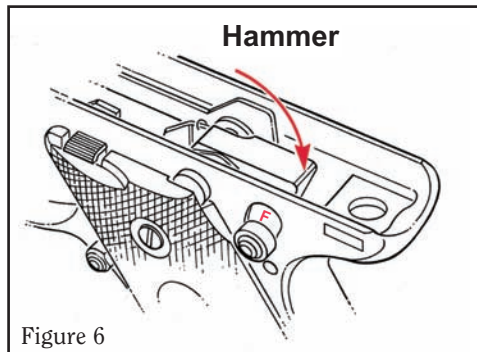

Figure 6
1. Be certain the pistol is free of cartridges! The safety must be in the "off" (F) position for reassembly.
2. Keep your finger off the trigger. Place the hammer in the horizontal (cocked) position. (The hammer is visible by looking down on the grip frame and is the rectangular object inside the grip frame and near the rear. See Figure 6.)